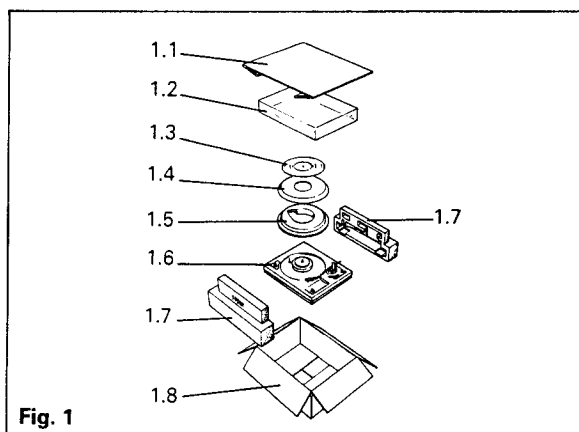

Fig. 1
The bias compensator control (5.4) has two calibrated scales: one for cartridges with elliptical styli (E) and one for cartridges with a CD4 (or conical) stylus. Turn the control knob to correspond with the stylus force already set. For instance, if a cartridge with an elliptical stylus calls for a stylus force of 1g, set the calibration mark on the control to the figure 1 on the E scale (as shown).